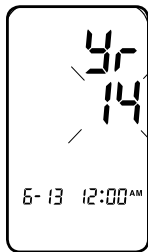

Fig. 1
1. The year will be blinking the screen, Fig. 1. Press the **M1** button to advance the year until the desired number appears. To scroll through the numbers quicker, hold down the **M1** button as the numbers advance.